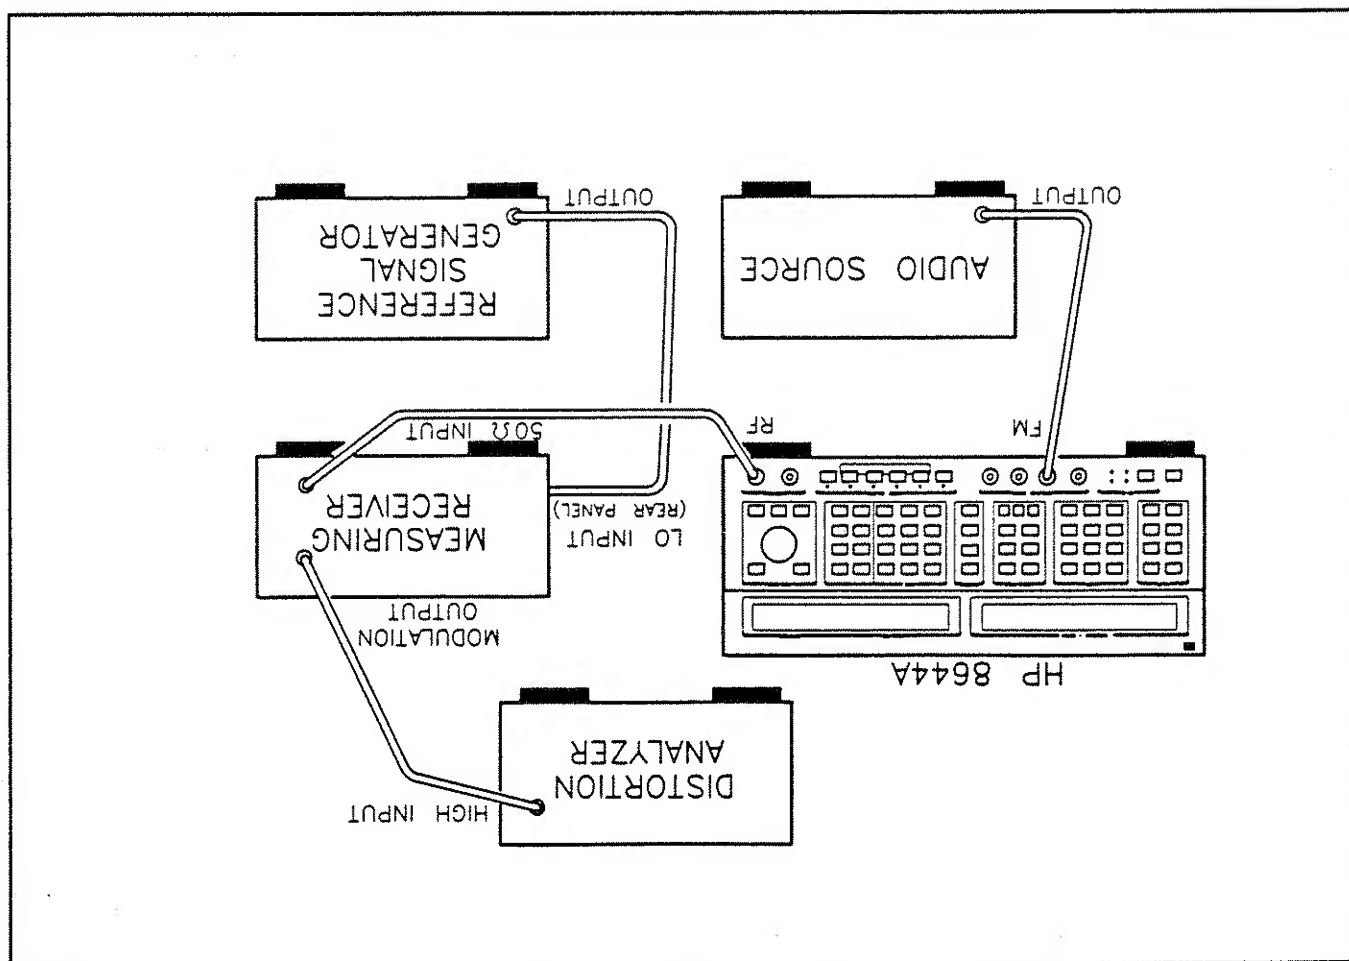

Figure 3-2. (Low Deviation and Rates) Test Setup
1. Connect the equipment as shown in figure 3-2 making note of the following details.